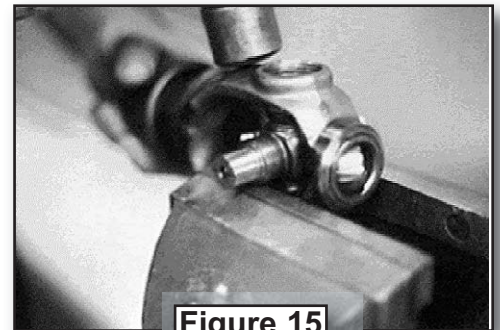

Figure 15
11. Set the shaft yoke on the vise so the shoulders of the cross are supported by the jaws of the vise. **DO NOT** allow the machined surfaces to contact the vise. Hit the yoke with the hammer to seat the bearing cup against the snap ring. **DO NOT** hit the yoke near the opening for the bearing cups (see *Figure 15*).